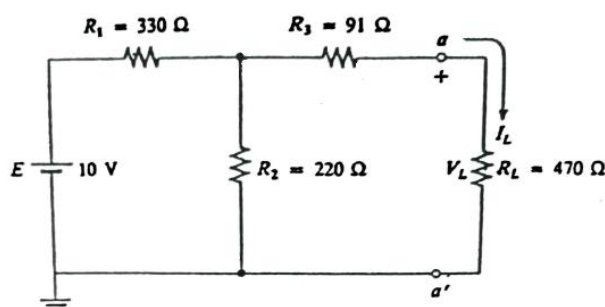

FIG 4.1
- (c) calculate the load current in the original network of fig 4.1 using series parallel methods
- (d) Construct the network of Fig 4.1 and measure the voltage for the load and the current for the load and compare to (b).